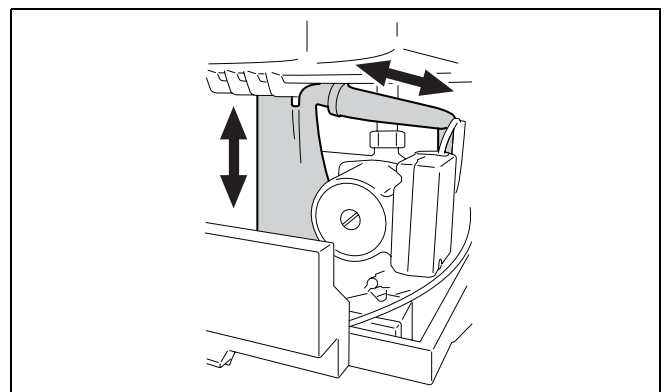

fig. 61 Cleaning the condensate trap
- Remove the condensate trap (→ fig. 61).